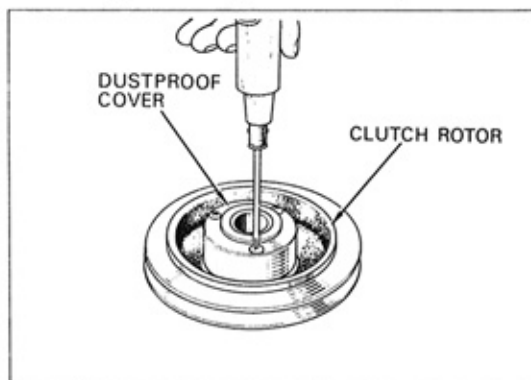
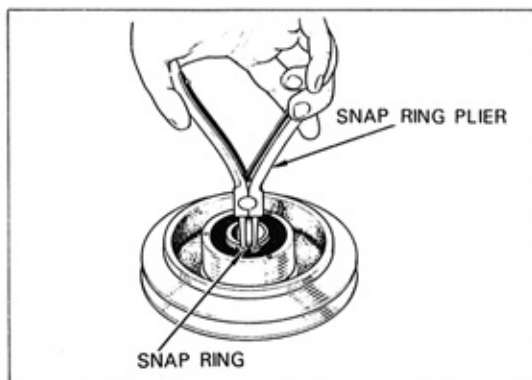

Fig. 65
Fig. 66
- a) Remove the dustproof cover and small snap ring from the clutch rotor assembly. See Fig. 65 and Fig. 66.